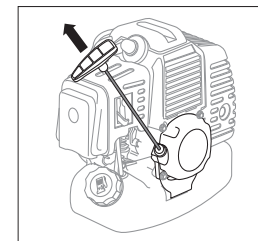

fig. 11
6. Holding the trimmer, gently pull the starter handle until it engages in the starter mechanism. Then vigorously pull the cord 50-60 cm (fig. 11). To avoid damage to the starter case, do not drop the starter handle, gently return it to its original position. Repeat these steps 3-5 times before the first flash of fuel in the engine. In this case, the engine should not start.